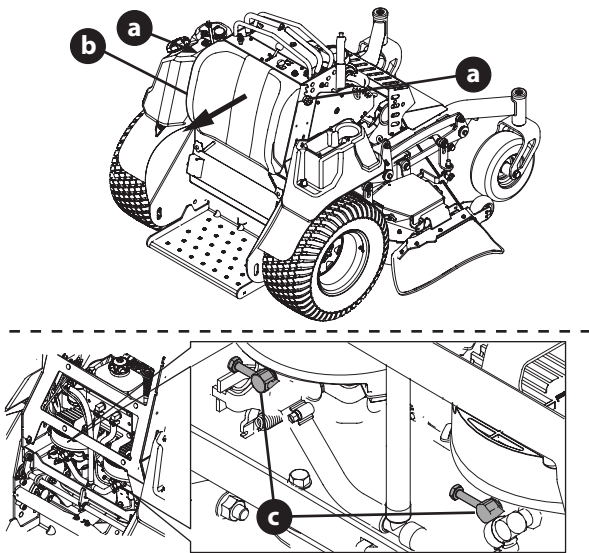

Fig. 25
1. Loosen the two star knobs (a) securing the leg pad (b) to the mower (Fig. 25).
4. Locate the hydrostatic transmissions and open the two bypass valves (c) a maximum of two turns (Fig. 25).